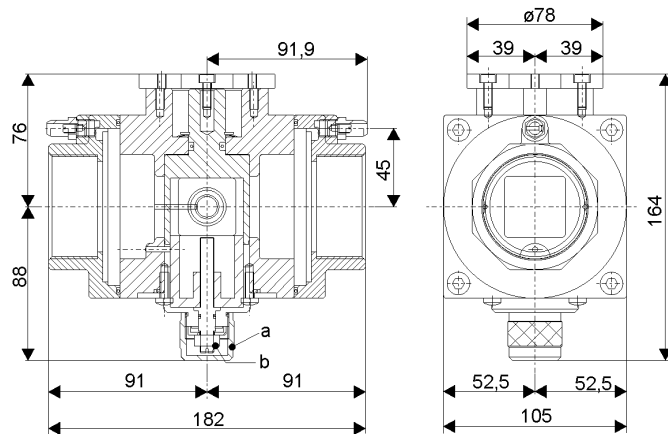

Fig. 1. Installation drawing VT5000M1/M2
See Fig. 1. Installation drawing VT5000M1/M2 on page 2.
1. Remove the metal cap screw part. a. Fig.1., placed under the body of the valve.
2. Loosen the hexagonal nut part. b Fig.1. with a wrench.